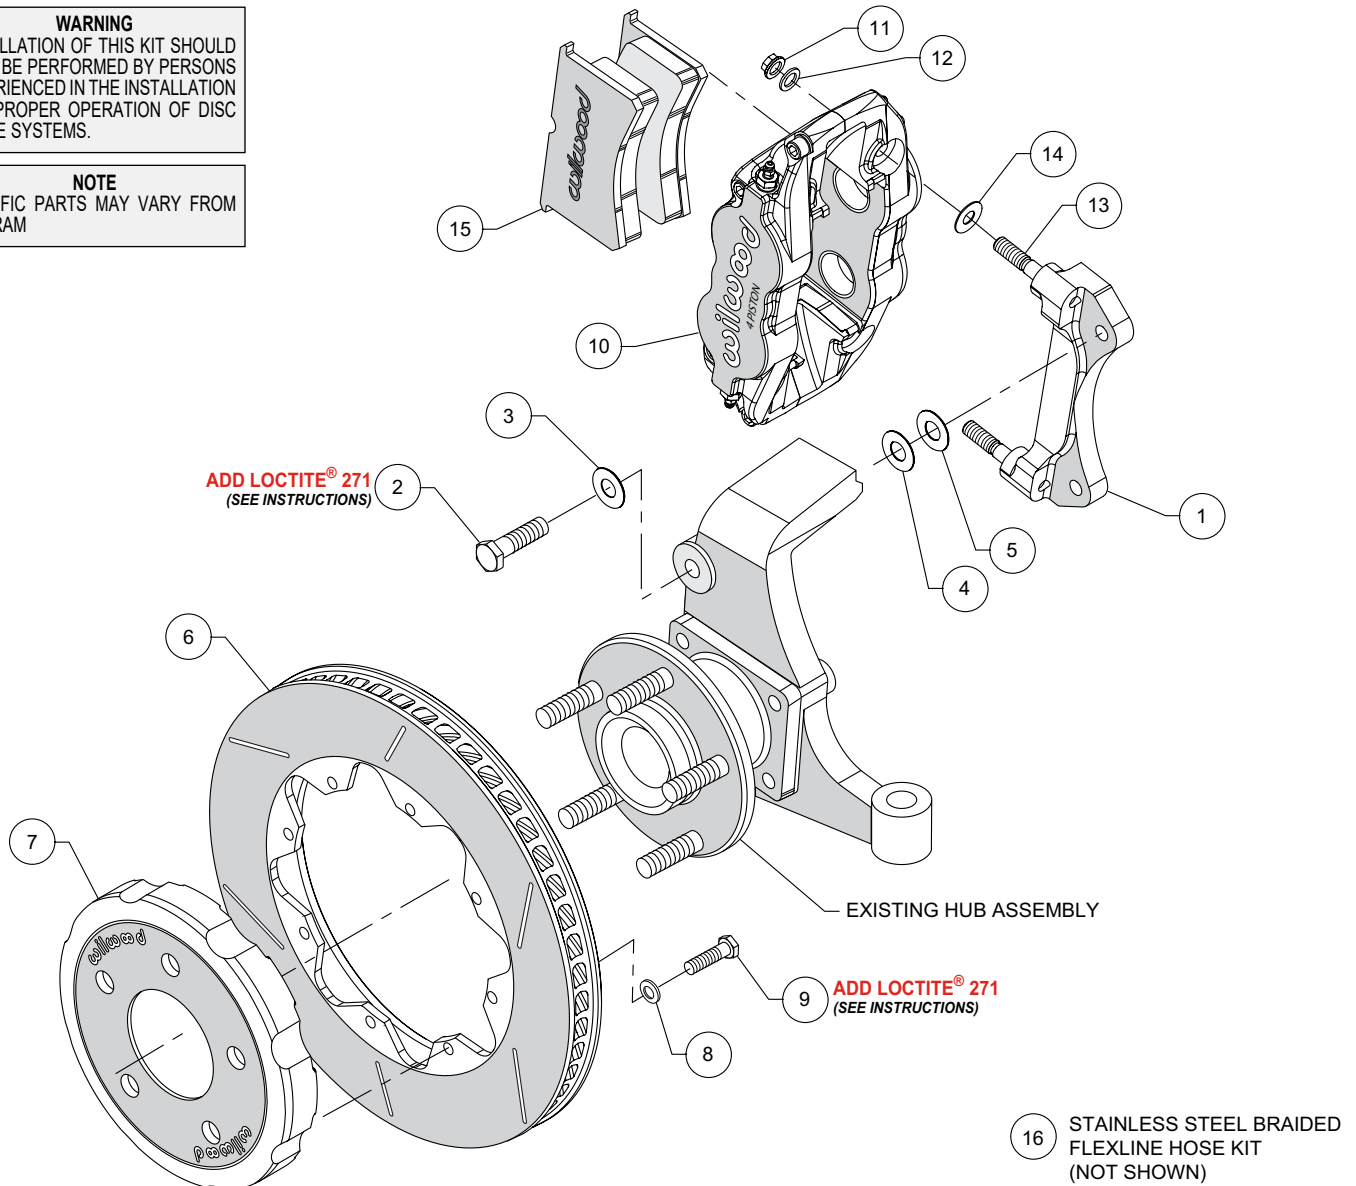
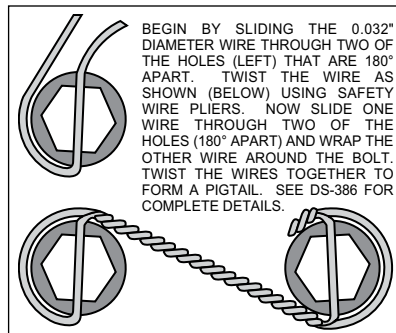

Figure 1. Typical Installation Configuration
Figure 3. Safety Wire Diagram
**NOTE:** Numbers in parenthesis refer to the parts list and Figure 1 on the preceding pages.
- The caliper mount bracket assembly (1) should be installed first with clean, dry threads on the mounting bolts. Install the bracket on the inboard side of the spindle by sliding bolt (2) through flat washer (3), and spindle ear from the outboard side of the spindle. Place two shim washers (4) between the bracket (1) and the spindle (see figure 1). The bracket must tighten squarely against the inboard side of the caliper mount bosses on the spindle body. Inspect for interference from casting irregularities, machining ridges, burrs, etc. Later, after the caliper, pad, and rotor alignment has been checked, and any necessary shims have been put in place, the mount bolts should be coated with red *Loctite*® 271 and torqued to 65 ft-lbs.
- With the larger I.D. side of the rotor (6) facing away from the hat (7), attach the rotor (6) to the hat (7) using washers (8) and bolts (9) as shown in Figure 1. Apply red *Loctite*® 271 to the bolt threads and torque to 25 ft-lbs using a criss-cross pattern. For an added measure of security, the bolts may be safety wired using standard 0.032 inch diameter stainless steel safety wire as shown in Figure 3. Please refer to Wilwood's data sheet DS-386 (available at [www.wilwood.com/Pdf/DataSheets/ds386.pdf](http://www.wilwood.com/Pdf/DataSheets/ds386.pdf)) for complete safety wire installation instructions.
- Install two shims (14) over each stud (13) on the radial mount bracket. Slide the caliper (10) in place over the studs and rotor and install the washer (12) and lock nut (11) to hold the caliper in